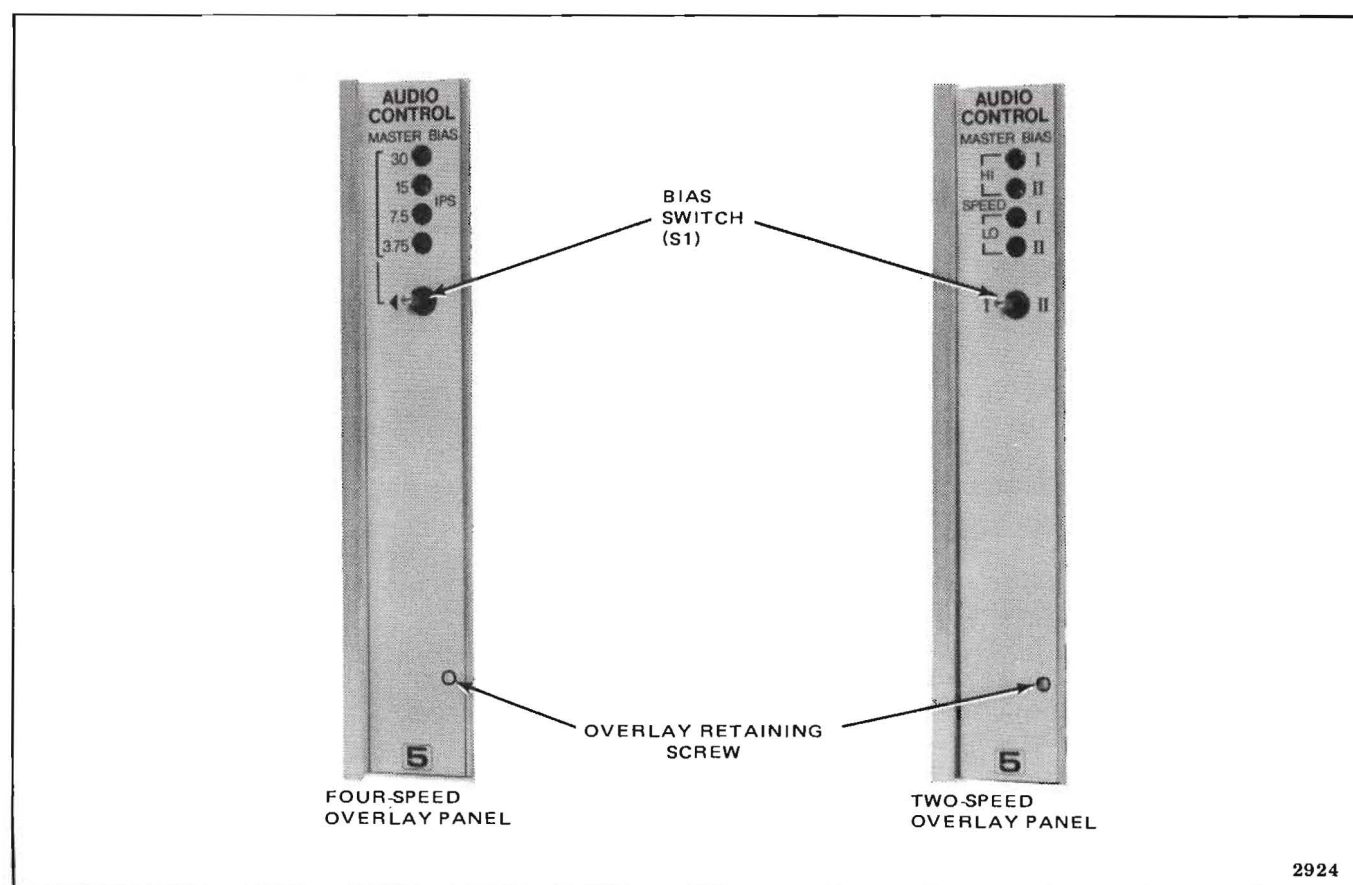

Figure 5-4. Overlay Panel, Audio Control PWA No. 5
To change operating-speed pair and master bias operation, jumper plugs are repositioned on Audio Control PWA No. 5 and on the PADNET PWA(s). The jumper plugs on the Audio Control PWA No. 5 permit the user to program the recorder/reproducer for two-speed (dual master bias) operation or four-speed master bias operation. When the recorder/reproducer is programmed for two-speed master bias operation, a bias switch on the front panel of Audio Control PWA No. 5 (Figure 5-4) enables the operator to select one of two different master bias levels for each of the two operating speeds.
2. Two overlay panels are furnished with the PWA. If the two-speed overlay panel (Figure 5-4) is not in the front position on the PWA, remove front-panel screw, interchange overlay panels, and reinstall screw.
2. Two overlay panels are furnished with the PWA. If the four-speed overlay panel (Figure 5-4) is not in the front position on the PWA, remove front-panel screw, interchange overlay panels, and reinstall screw.